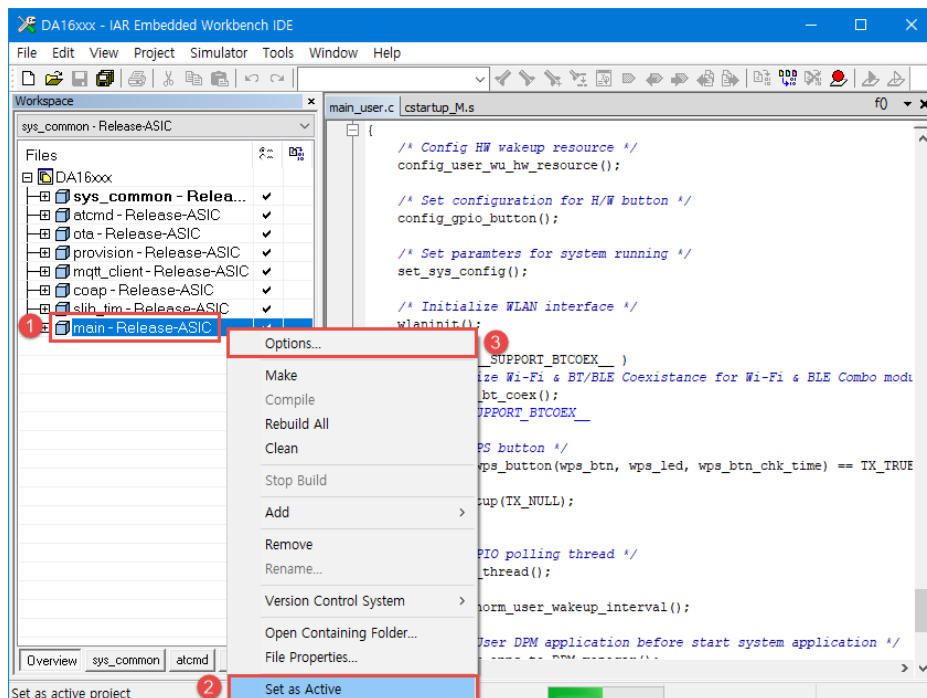

Figure 39: Select Debugger Option
- a. In the **IAR Embedded Workbench IDE** window, right-click **main – Release-ASIC** and click **Options**. See Figure 39.